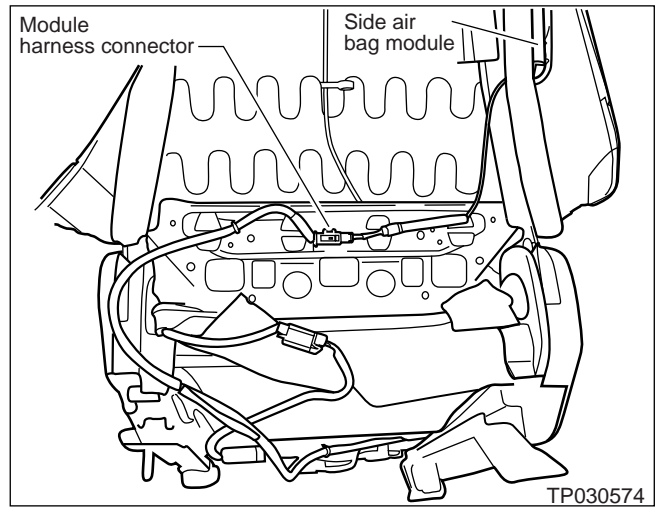

Figure 7
9. Disconnect the air bag module harness connector (see Figure 7).